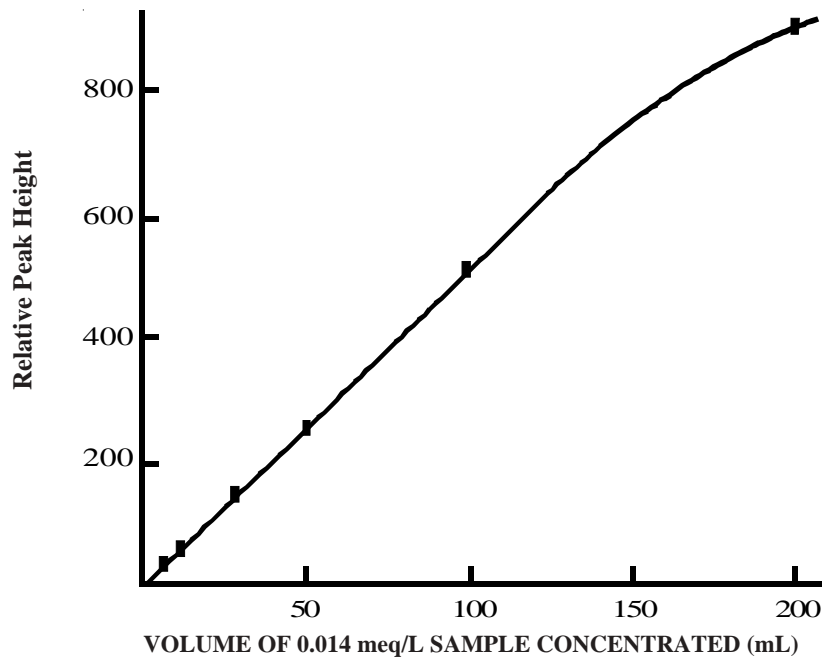

Figure 3
- D. A plot of response versus volume concentrated should be generated as in Figure 3, "Response Versus Volume Concentrated," for determination of the maximum amount of sample or standards that can be quantitatively loaded. In Figure 3, the break in the curve where linearity starts to change is 100 mL concentrated. For practical purposes the amount concentrated for a series of samples should be 75% of this value. This will ensure a safety margin for samples having slightly higher ionic concentrations.